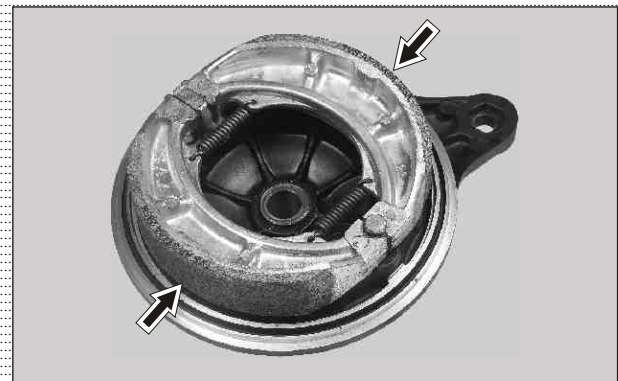

Fig. 6.121
- Remove brake shoe set (rear) from the panel assembly rear along with spring brake shoe. (Fig. 6.121)